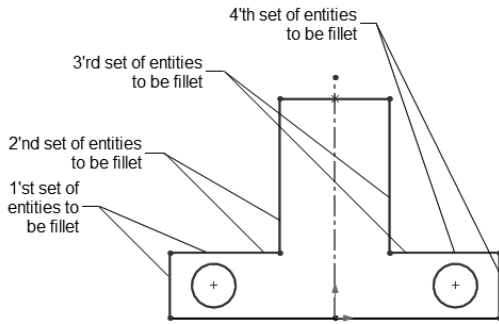

Figure 3-19 Sets of entities to be filleted
- Select the first set of entities to be filleted, refer to Figure 3-19; the preview of the fillet with the default radius is displayed. Next, select the second, third, and fourth set of entities to be filleted one by one, refer to Figure 3-19.